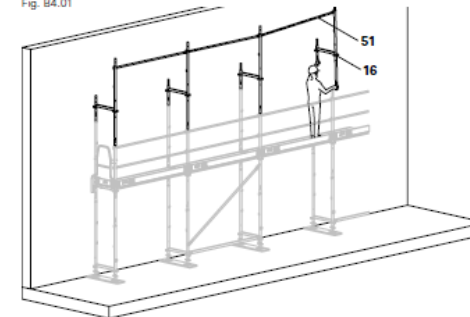

Fig. B4.02
2. Mount the Easy Frame (16) and Guardrail EPG (51) on the available scaffold assembly. (Fig. B4.02)